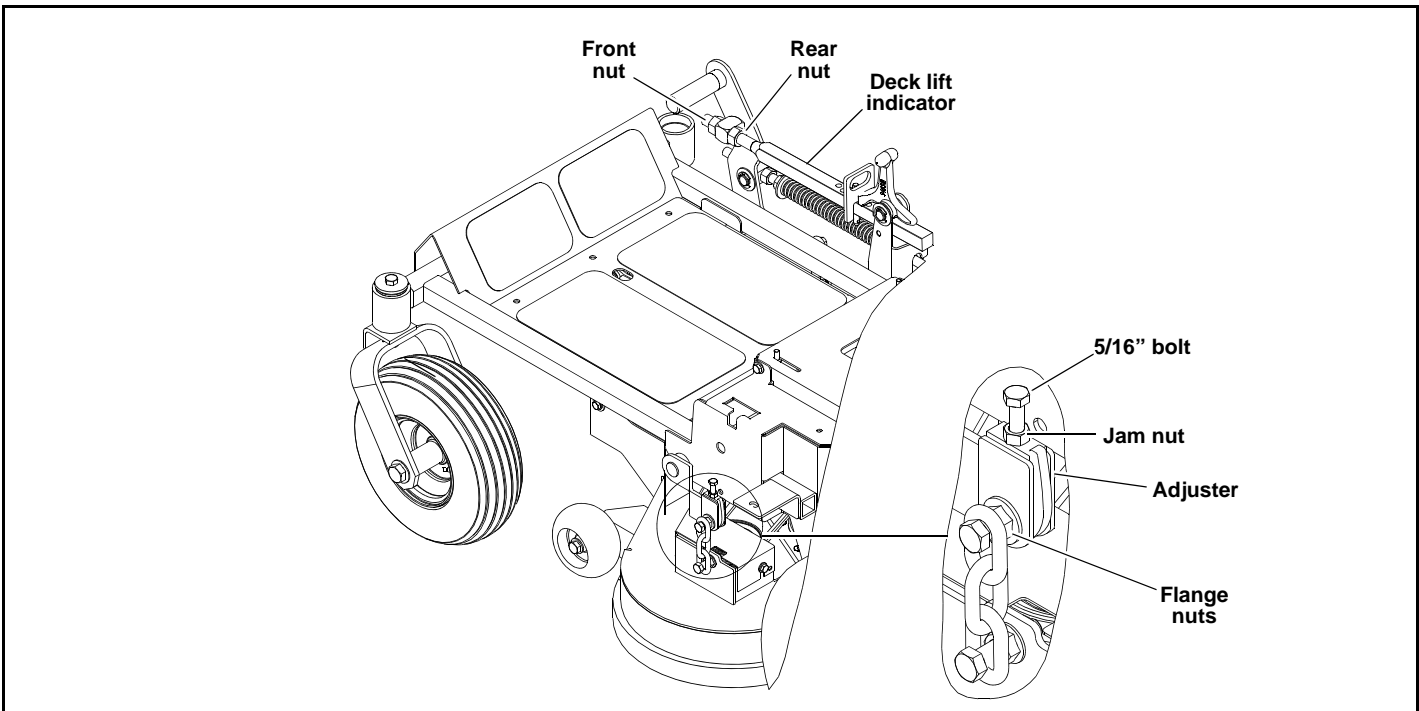

Figure 6-3
6. Loosen the two nuts on the front of height indicator bar so that the bar has some play. Figure 6-3
8. Loosen the adjuster, on the left rear of the deck, by loosening the flange nuts. Figure 6-3
9. Loosen the jam nut on the adjuster, and back the 5/16" bolt out to allow the adjuster to move up and down freely. This deck lift chain should be slack. Figure 6-3
13. Tighten the rear nut against the block on the deck lift indicator as tight as you can by hand. Make sure the stop handle is pushing firmly against the height adjusting stop so that there is no free play forward or rearward when you shake the height adjusting bar. Figure 6-3
14. Finger tighten the front nut against the block attached to the deck lift indicator. Tighten both nuts and check to make sure that all deck linkage hardware is tight. Figure 6-3
16. Tighten the 5/16" bolt on the deck adjuster until the chain just becomes tight, making sure that the deck stays tight against the deck support block. Figure 6-3
17. Tighten the jam nut to prevent the adjuster from moving. Figure 6-3
18. Tighten the flange nuts on the left rear chain. Figure 6-3